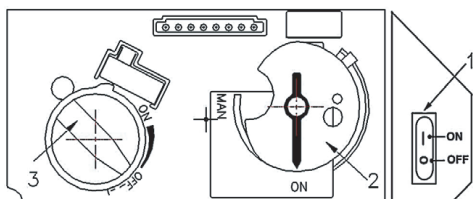
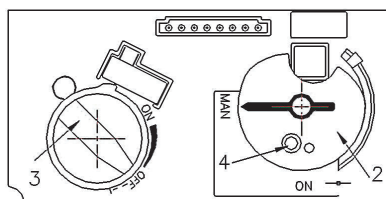
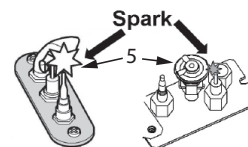

Fig 1
Fig 2
Fig 3
2. SET ON/OFF SWITCH (1) TO "OFF" POSITION.
- Wait five (5) minutes to clear out any gas, then smell for gas, including near the floor. If you smell gas, STOP! Follow "B" in the safety information above on this label. If you don't smell gas, go to the next step.
3. AUTOMATIC IGNITION (fig. 1): Locate the pilot (fig. 3.) inside of firebox at Left Hand side.
- ON/OFF switch (1) in ON position, MAN-knob (2) in ON position; set Flame Adjustment knob (3) to lowest setting (0);
- When the pilot is lit, the Flame Adjustment knob (3) will automatically rotate to the highest setting.
4. MANUAL IGNITION (fig. 2): With the window off, locate the pilot (fig. 3) inside of firebox at Left Hand side;
- ON/OFF switch (1) in ON position, MAN-knob (2) in MAN position;
- Set Flame Adjustment knob (3) to the lowest setting (0);
- Push down the metallic core (4) with a pen or similar instrument; this will establish the pilot gas flow;
- Light gas at the pilot (5) with a match;
- Continue holding down metal core (4) for about 10 seconds; after release, pilot should remain lit;
- If the pilot will not stay lit after several tries, turn the gas control knob (3) to "OFF" (0) and call your local service technician or gas supplier.